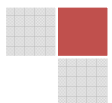

**Fig. 1** Manifold Top Plate
6. Install manifold top plate (**Figure 1**) use the supplied ¼ 20 screws and studs as needed. Apply a suitable bead of Permatex® Ultra Blue RTV® or any good gasket type sealant around the flat edge of the lower manifold to form a good gasket. **NOTE: If you apply too much sealant it will ooze out the sides and make a mess.** Using the supplied hardware, loosely insert and start all the screws and studs as needed to obtain the proper fitment. Once the screws are all installed, starting from the inner screws and working your way outward, torque screws to 215in/lbs. It is also recommended that you put a small amount of Permatex® medium strength Threadlocker Blue Gel™ or equivalent thread sealant on each screw thread to keep them from backing out.
7. Install all other remaining hardware, water thermostat, water neck, distributor, brackets, vacuum fittings and tubes, tachometer ballast etc... from the stock manifold in the provided holes in Renegade manifold and top plate. Install the PCV valve hose nipple from the stock manifold into the plate top provided, raised port in front, see (**Figure 1.**). Attach supplied hose to nipple and PCV valve on drivers side valve cover. Install the remaining vacuum fittings from the stock top plate to the Renegade top plate taking care not to over tighten them.